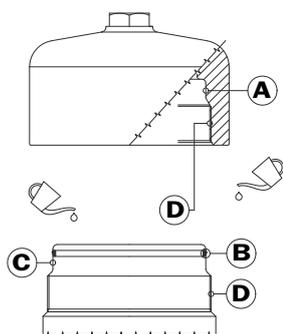

Fig. 3
- 4** To avoid damaging the components check the cover threads and the seals thoroughly; check also the housing-thread. Check the condition of the seals - when changing the seals lubricate the new seals with operating fluid prior to installation (see fig. 3).